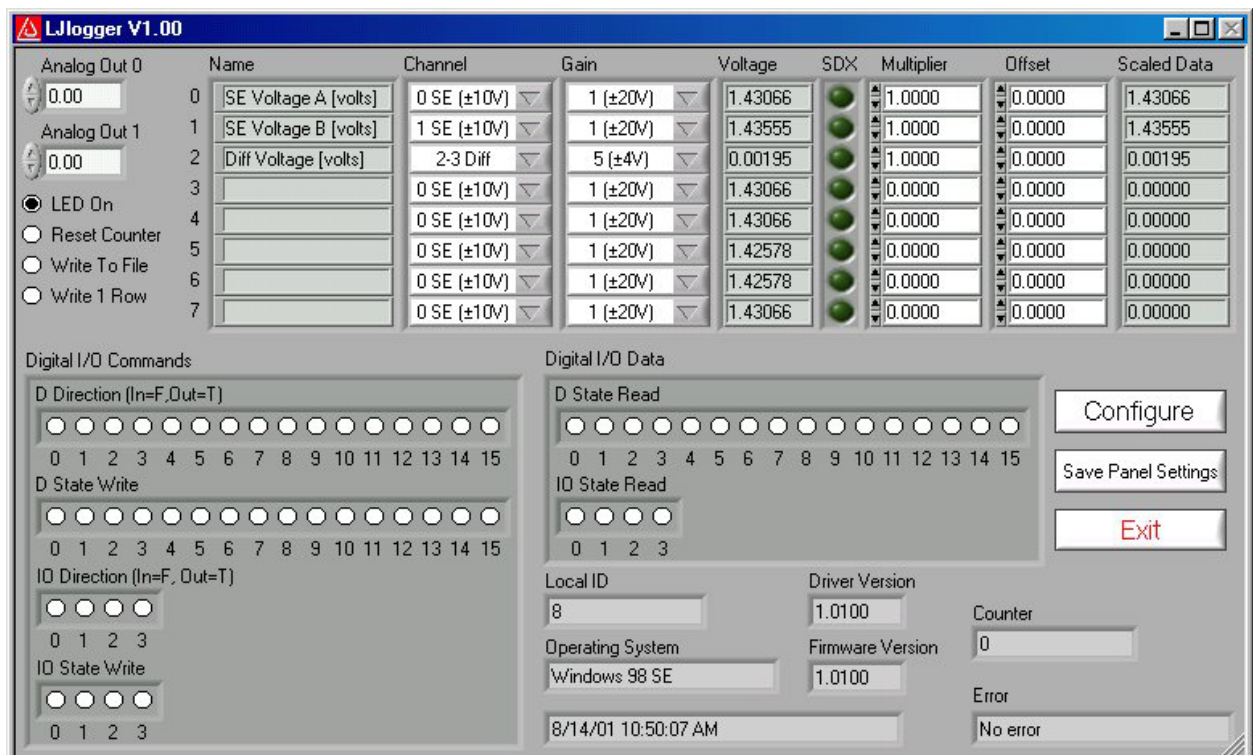

Figure 3-5. LJlogger
The main window for LJlogger is shown in Figure 3-5. The white colored items and the “SDX” buttons are controls to be edited/selected by the user. The grey colored items are indicators
Clicking the “Configure” button shown in Figure 3-5 brings up the window shown in Figure 3-6:
- **Trigger #0:** If the scaled data from analog input row 7 (Figure 3-5) is greater than 5, then set AO1 to 5 volts. Once triggered, there is a 10 second delay before it can be triggered again.